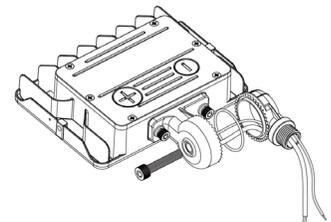

Fig. 1.2
2. Align the rubber gasket to the knuckle mount. Then pull the wire through the hole of the bottom part of the knuckle mount (Fig. 1.2). Please be careful and do not pinch the wires.